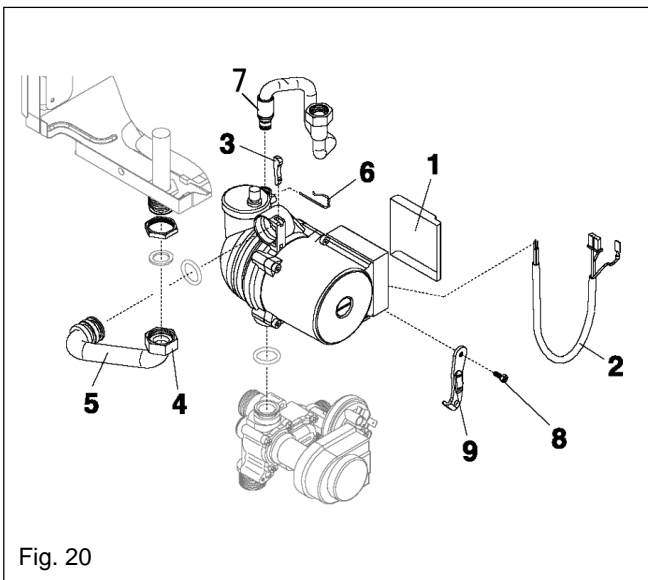

Fig. 20
6.5 PUMP ASSEMBLY (see fig. 20)
6.7 AUTOMATIC AIR RELEASE VALVE (see fig. 20) (AAV)